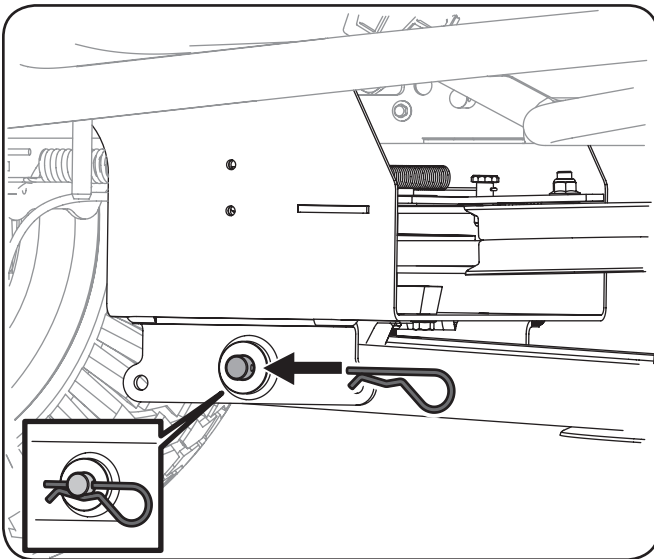

Figure 3-23
2. Pivot the rear of the frame rail assembly upward and secure it to the inside of the carriage assembly with the clevis pins and hairpin clips removed in step 1 of Mounting the Carriage Assembly on page 9. See Figure 3-23.